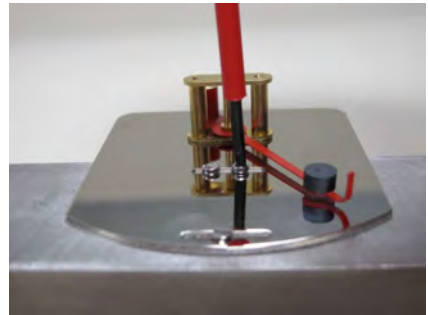

Fig. 60
12. ▶ Position the display base plate onto the device body and lightly tighten the fixing screws so that the base plate can still be moved (Fig. 60). Make sure that the countersunk head screw is used for the long groove (pointer end) and the cylinder head screws are used to secure the base plate middle.